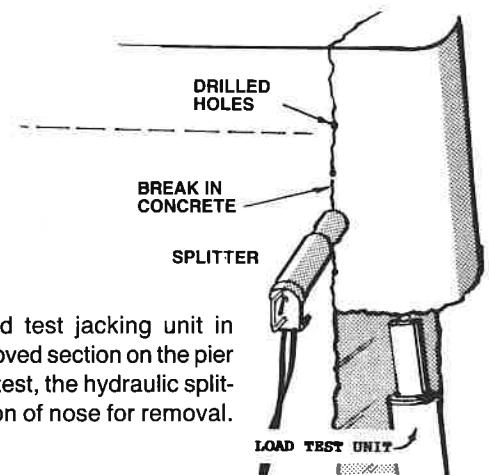

FIG. 2
3. This section below the slot was completely removed using the splitter to break out all the remaining concrete below the slot. (See Fig. 2)
4. A load test was conducted in the area of the removed concrete and the structure proved to be usable. (See Fig. 2)
5. After the load test, holes were drilled along the top half of the remaining nose and the splitter broke the remaining pieces on the line shown in Fig. 2. This completed the removal of the full nose from the side of the pier.